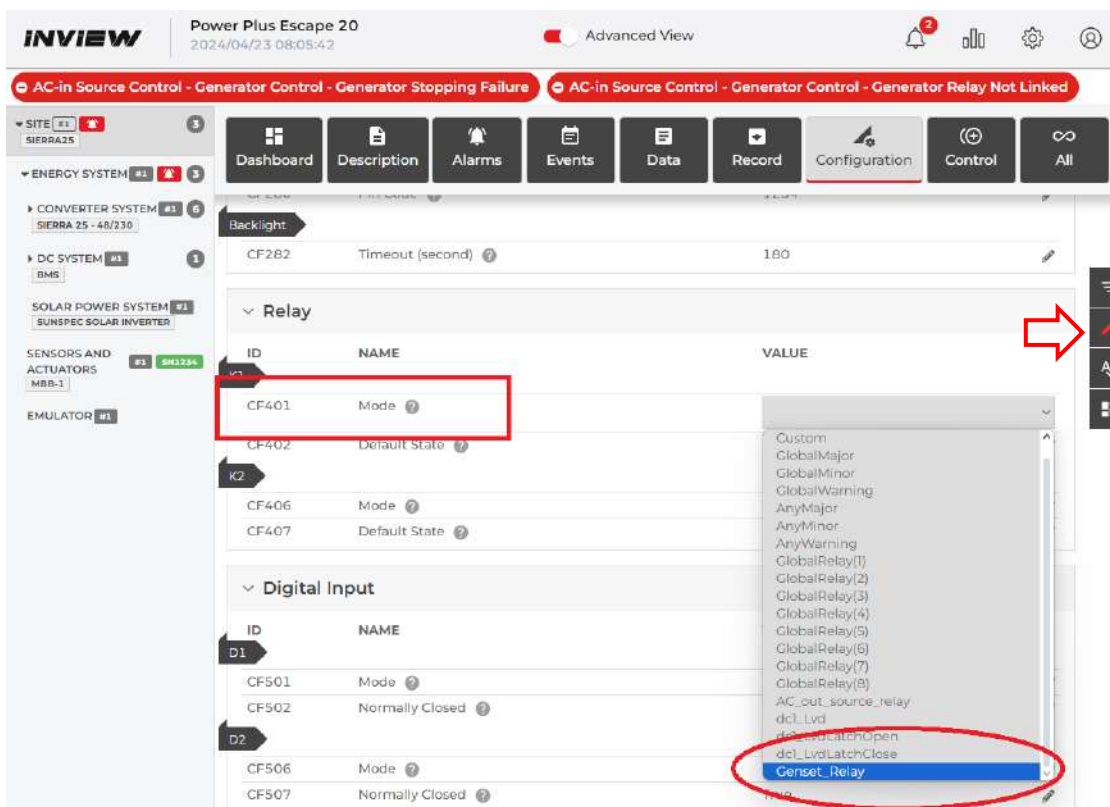

Figure 33- Configuring the Genset Relay
- 7- Once genset is selected we will need to assign the genset relay. To do this go to setting CF401 under **Site > Configuration** and select the Genset-Relay from the drop-down menu. This will remove the AC-in Source Control – Generator Control – Generator Relay Not Linked error which was displaying at the top of the screen. The AC-in Source Control – Generator Control – Generator Stopping Failure error will clear once the genset starts and stops. See Figure 33- Configuring the Genset Relay.